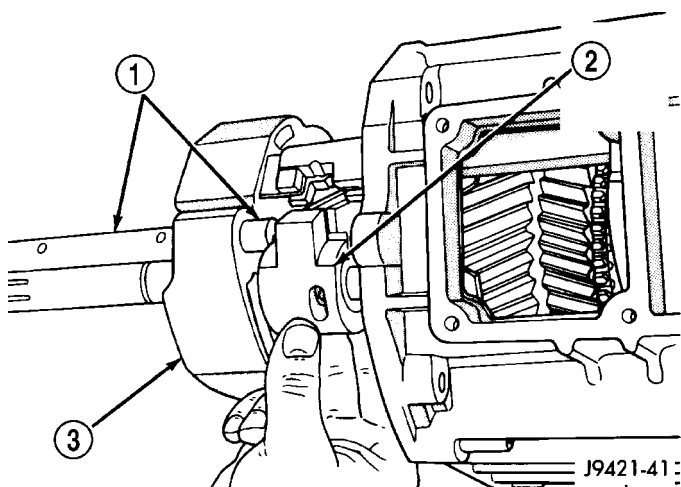

Fig. 106 LEVER AND BUSHING ASSEMBLY
(4) Install assembled lever and bushing on shift shaft (Fig. 106).